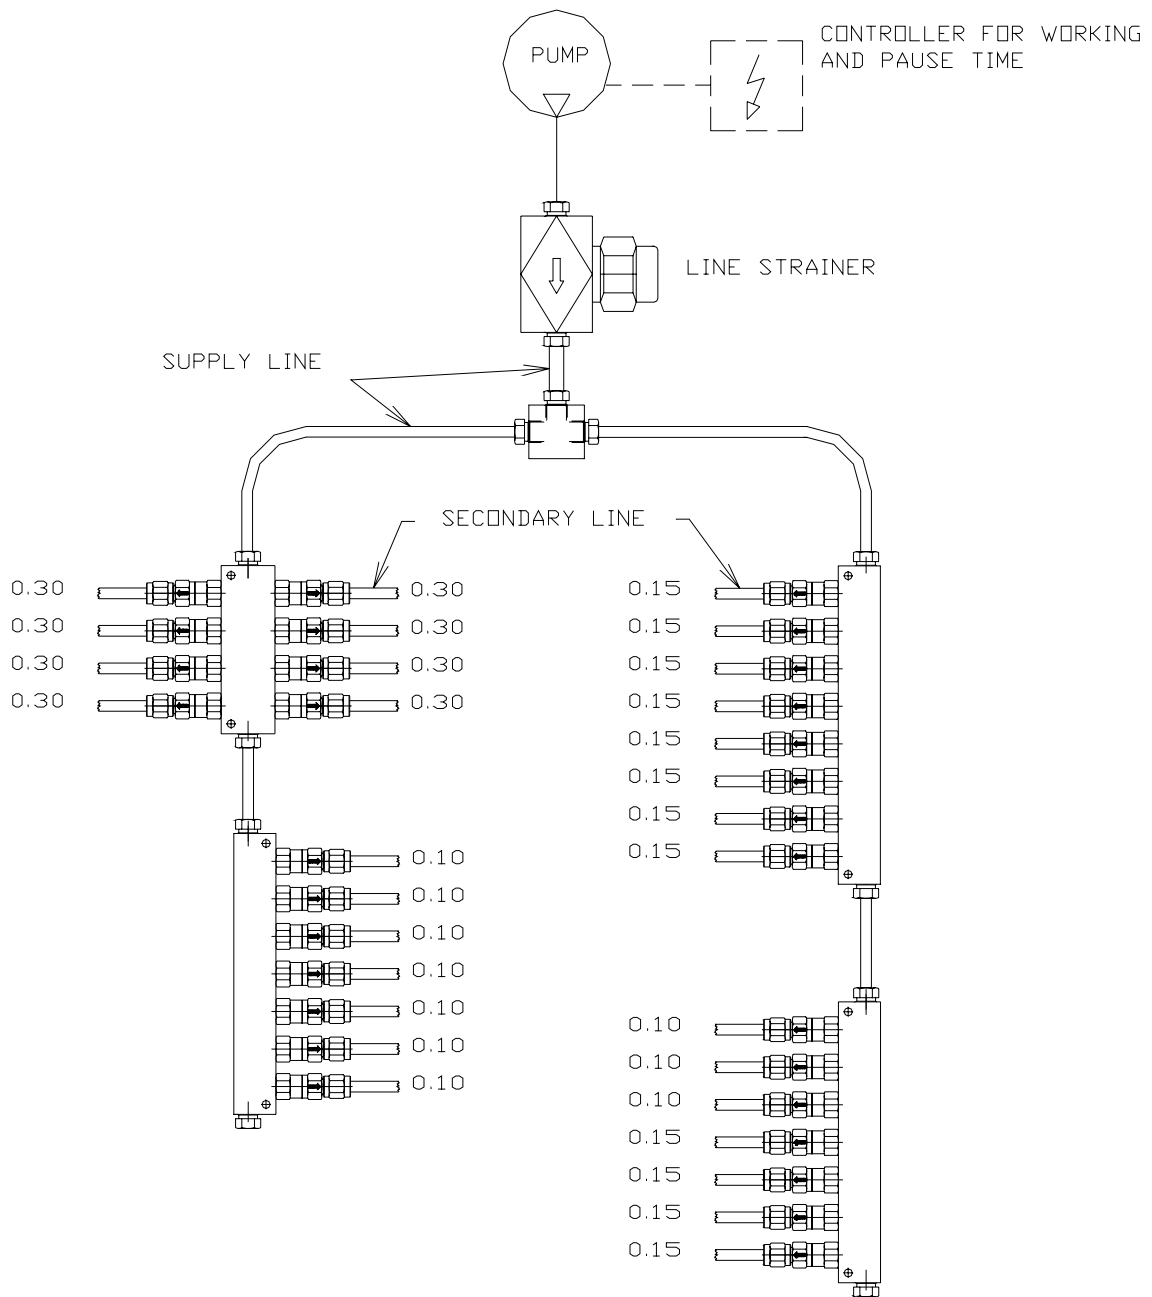

FIG. 1.1 A BASIC RESISTANCE LUBRICATION SYSTEM
*THE APPROACH TO SINGLE LINE SYSTEM PLANNING IS SIMILAR FOR BOTH SOFT-GREASE AND OIL LUBRICATION. IT CONSISTS OF SELECTING THE OPTIMUM COMBINATION OF ASSEMBLIES ILLUSTRATED IN FIGURE 1.1.*